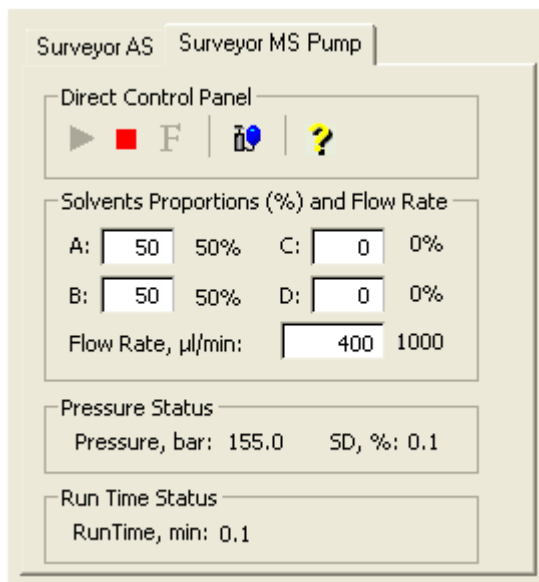

Figure 5-2. Inlet Direct Control view, showing pump On
- a. In Tune Master, on the Control / Scan Mode toolbar, click on the AS/LC Direct Control button to display the Inlet Direct Control view in the top right corner of the workspace. See Figure 5-2.